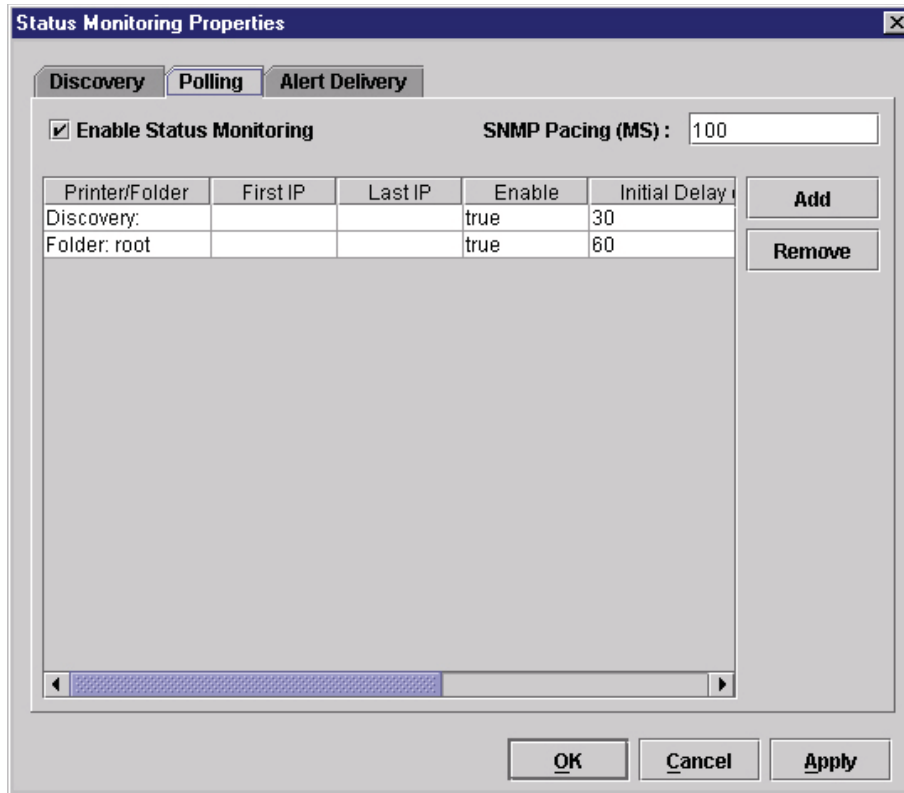

Figure 32 Status Monitoring Properties: Polling Tab
To enable the option, check the **Enable Status Monitoring** check box in the Polling tab (see Figure 32). The SNMP Pacing (MS) value places a delay between each SNMP request. This feature minimizes the network load. By default, the value is set at 100 milliseconds (.1 second).